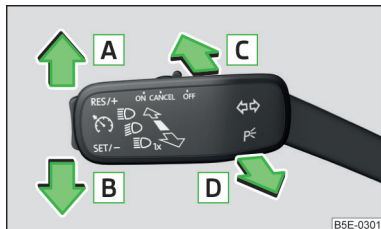

Fig. 51
- Pull the turning signal and main beam lever (» Fig. 51 on page 73) towards the steering wheel, push down and hold in this position.
Lever positions » Fig. 51